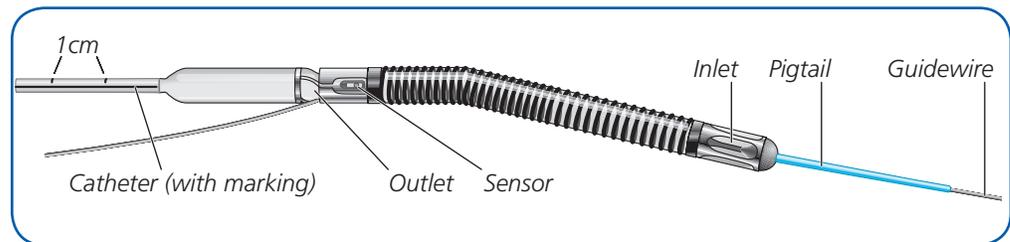

Figure 5.31 Guidewire Placement
6. Hold tension on the proximal vessel loop to prevent bleeding. Straighten the blue pigtail and thread it over the 0.018 inch placement guidewire (see Figure 5.31). Wet the cannula with sterile water and backload the catheter onto the placement guidewire. One or two people can load the catheter on the guidewire.
- a. Advance the placement guidewire into the Impella® 5.0 Catheter and stabilize the cannula between the fingers. This prevents pinching of the inlet area. The placement guidewire must exit the outlet area on the inner radius of the cannula as shown in Figure 5.31, and align with the straight black line on the catheter. The catheter can be hyperextended as necessary to ensure the placement guidewire exits on the inner radius of the cannula.